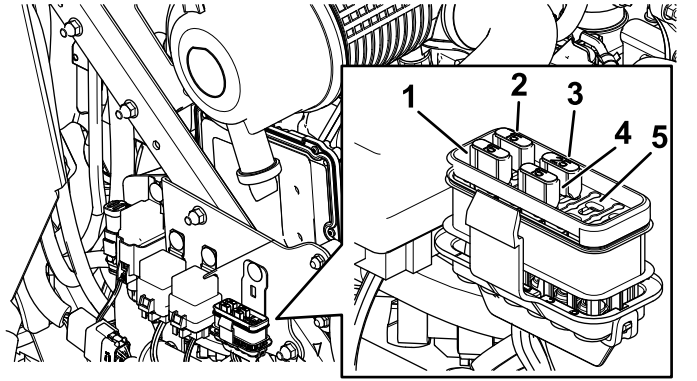

Figure 51
3. Install a new fuse (Figure 51).